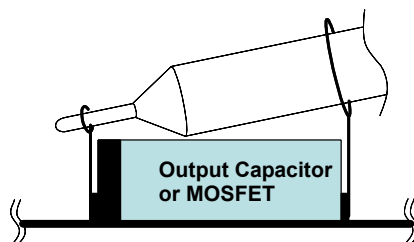
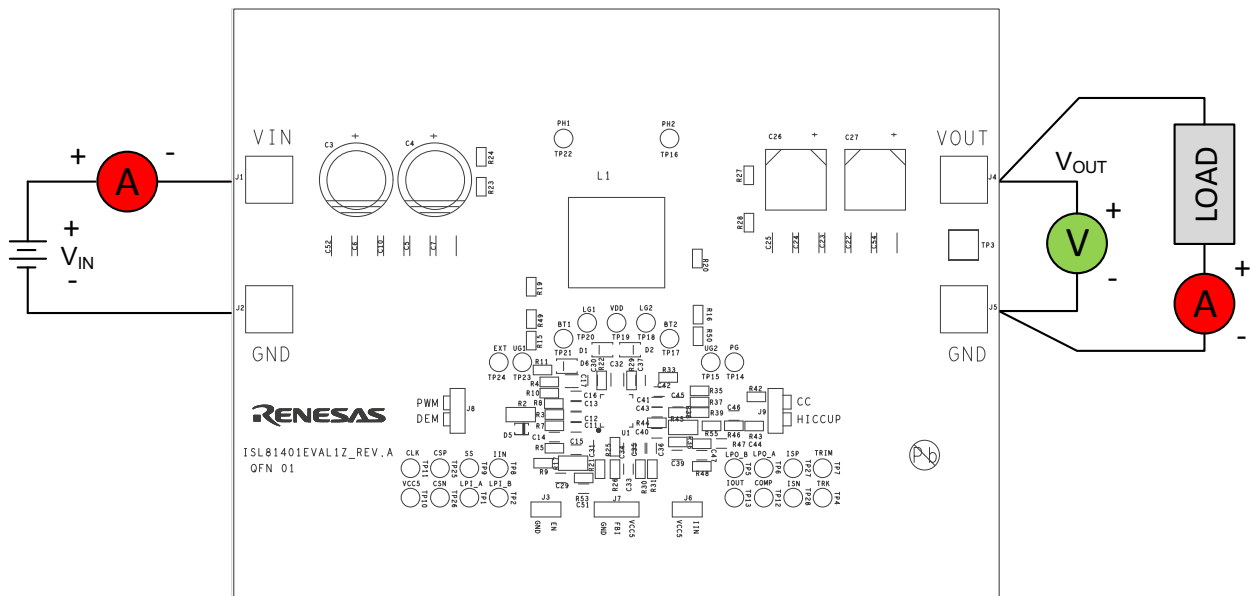

Figure 3. Proper Probe Setup to Measure Output Ripple and Phase Node Ringing
Figure 4. Proper Test Setup
As shown in Figure 4 on page 6, 6V to 40V VIN is supplied to J1 (+) and J2 (-). The regulated 12V output on J4 (+) and J5 (-) can supply up to 8A to the load. Due to the high power efficiency, the evaluation board can run at 8A continuously without airflow at room temperature ambient conditions.
- (1) Jumper J8 provides the option to select PWM or DEM. Jumper J9 provides the option to select constant current limit or HICCUP. Refer to Table 2 for the operating options. Ensure that the circuit is correctly connected to the supply and electronic loads before applying any power. Refer to Figure 4 on page 6 for proper setup.
- (2) Turn on the power supply.
- (3) Adjust input voltage V_{IN} within the specified range and observe the output voltage. The output voltage variation should be within 3%.
- (4) Adjust the load current within the specified range and observe the output voltage. The output voltage variation should be within 3%.
- (5) Use an oscilloscope to observe output voltage ripple and phase node ringing. For accurate measurement, refer to Figure 3 for proper test setup.